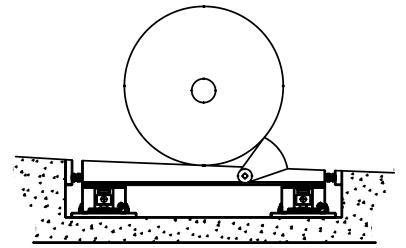

Figure 6-15: Platform Scale, Drive-On
- **Coil Scale, Live Stop:** With this type of scale, the coil rolls down an incline onto the scale and is stopped and held in place by a stop mounted on the live scale. After weighing, the stop is retracted and the coil rolls off the scale. Generally, settling time is not important. Severe horizontal forces result when the coil hits the stop. Instead of using stabilizers, it is better to let the scale float freely until it hits external bumpers. The face of the retractable stop should be lined with a compliant (spring-type) material. The bumper gap should be small enough so that the platform bumps against the external bumpers before contacting the weigh module's bumpers (see Figure 6-15). **Note:** Although stabilizers are not required for this type of dynamic scale, we recommend using external stops or checking.